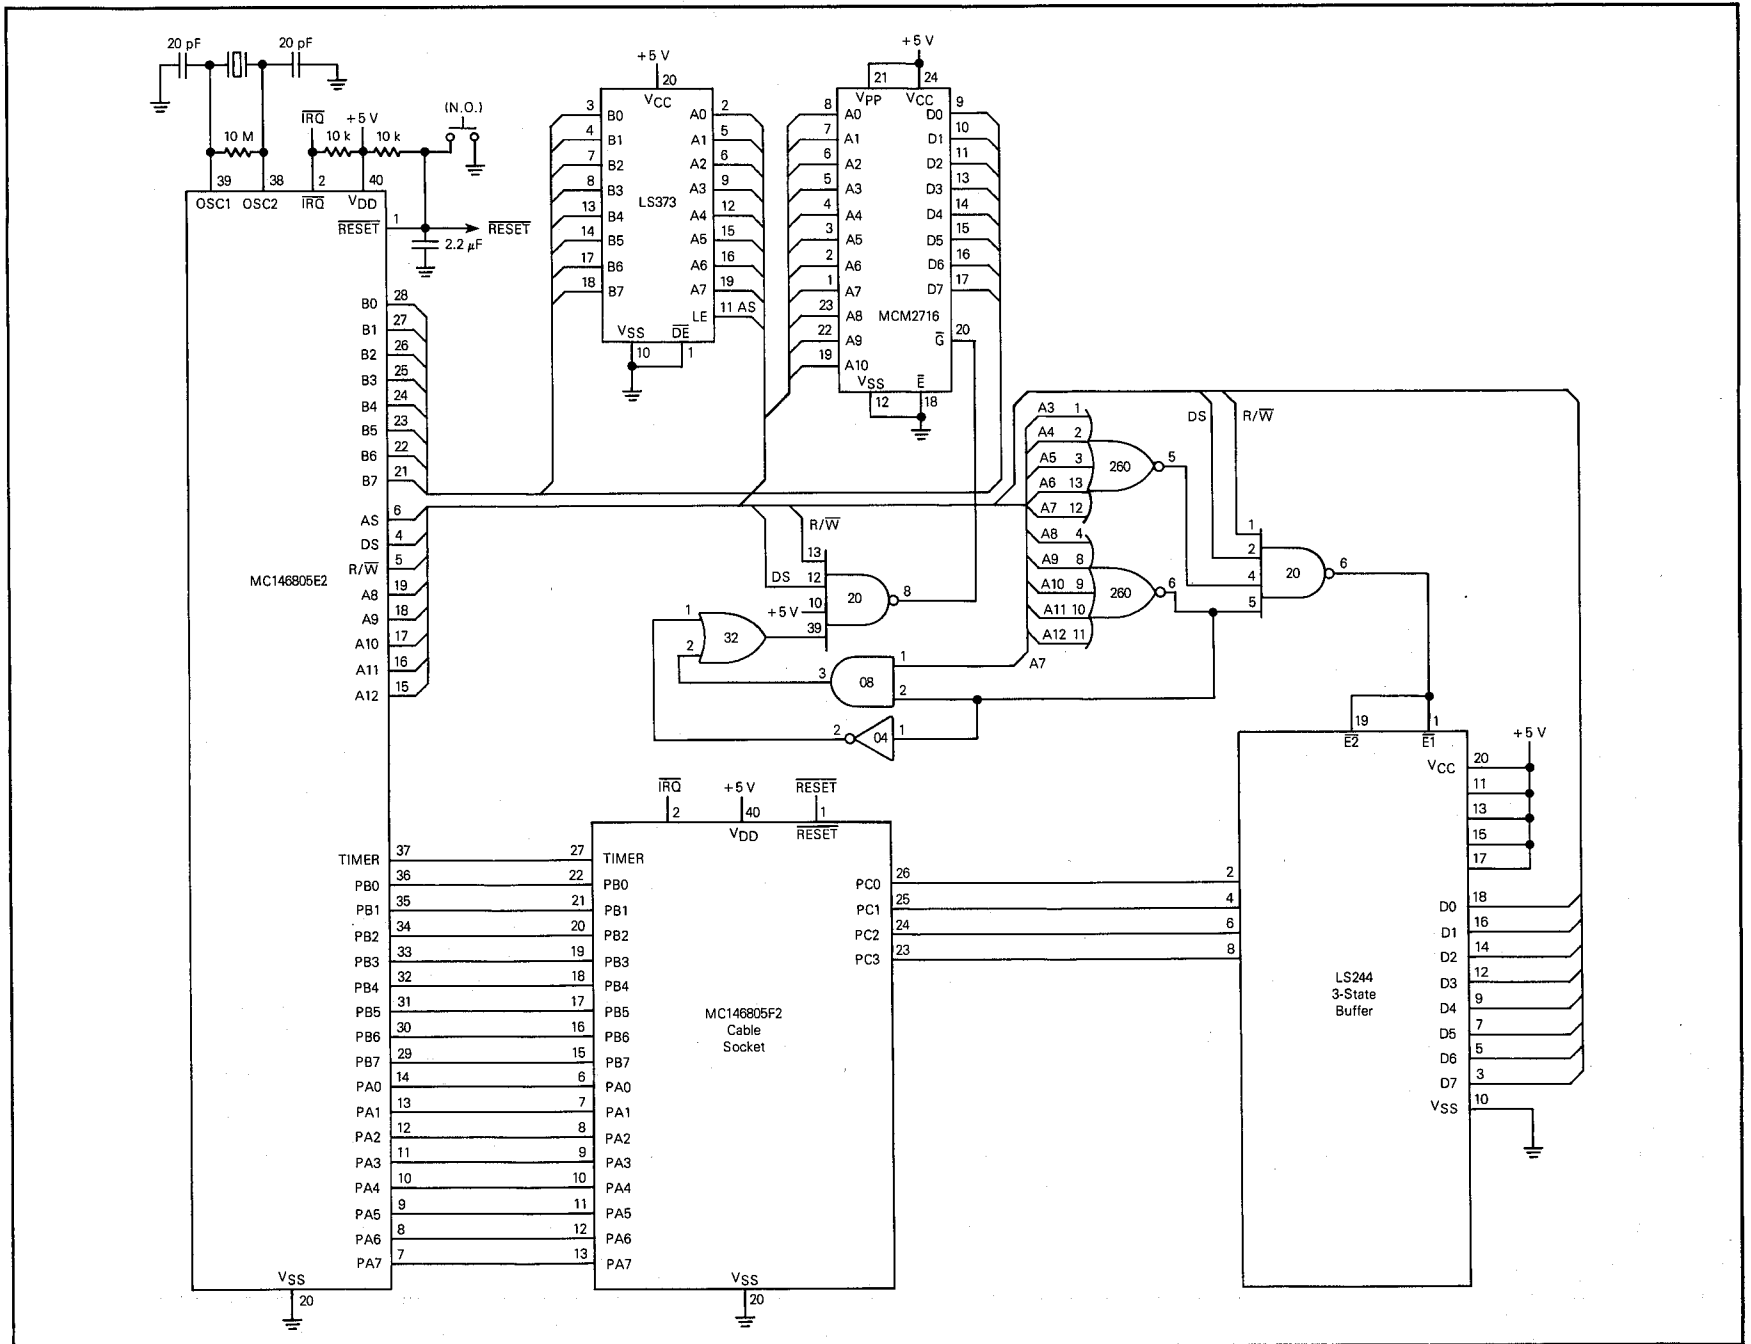

FIGURE 5 — MC146805F2 Emulator Schematic Diagram
The MC146805F2 emulator is similar to the MC146805G2 emulator. The differences include: (1) the MC146805F2 has a 2K byte address space instead of 8K as in the MC146805E2 and MC146805G2; (2) the example, as shown in Figure 5, decodes the MC146805E2 addresses to allow the vectors to appear in the same locations as for the MC146805F2; and (3) in addition to the 16 I/O lines on the MC146805E2, four input lines are required for MC146805F2 emulation. The four additional MC146805F2 inputs are not latched and can be read on the MC146805E2 bus via a three-state buffer such as the 74LS244 shown in Figure 5. The unused 74LS244 inputs
An error was discovered in the b portion of **TABLE 2—Patch for DEBUG05** of Application Note AN-853. A new Table 2 is provided below. Also, the address decode circuit of the MCM2716 in Figure 5 of AN-853 has been modified. A new MC146805F2 Emulator Schematic Diagram (for Figure 5) is shown on the reverse side of this sheet. In Figure 3 of AN-853, the decoded address at A is shown as (0800-07FF); however, it should be (0080-07FF).